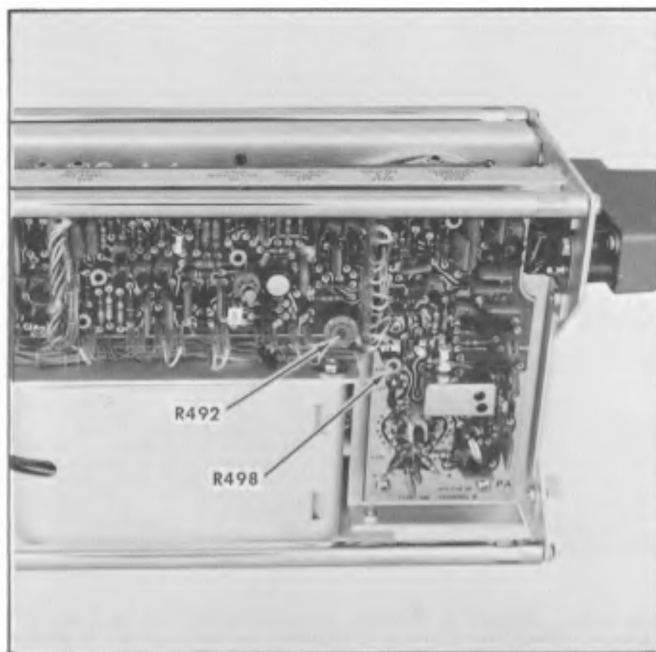

Fig. 8-10. Location of Channel B adjustment controls.
e. In either the 100 or 50 position, adjust the B Bridge Bal control, R492 (location shown in Fig. 8-10) to return the trace to the graticule centerline. As with Channel A, the B Bridge Bal control may reach the end of its adjustment range before it is properly set.
- b. Check the displayed pulse 10% to 90% risetime. If it is other than 0.35 ns, adjust the B Bridge Volts control R498, shown in Fig. 8-10, for a display similar to that of Fig. 8-11. It is permissible to adjust R498 at any position throughout its range, including leaving it at either end. Clockwise rotation decreases the time between the 10% and 90% points and counterclockwise rotation increases the time between the 10% and 90% points.